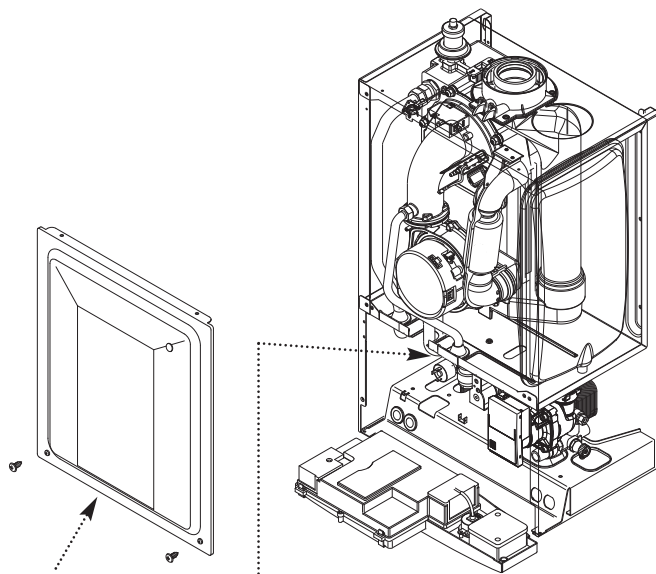

Fig. 47
4. Remove the screws securing the inner door panel. Lift the panel slightly to disengage it from the studs on top of the case (Fig. 47).